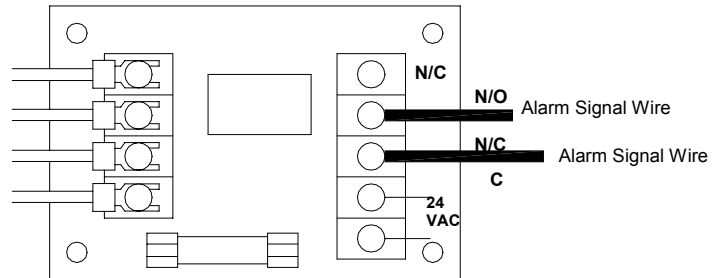

Figure 10
2. Connect one signal wire to the common (C) terminal and the other signal wire to the normally open (N/O) terminal on the terminal strip on the right side in the power supply box. (Figure 10)